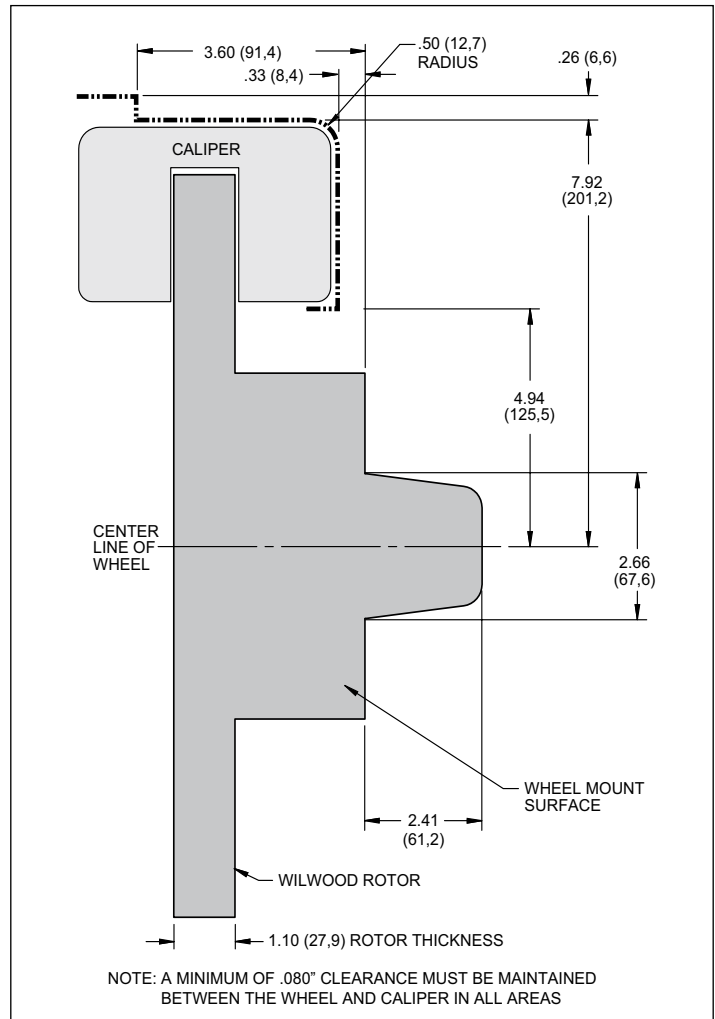

Figure 2. Wheel Clearance Diagram
- Review the wheel clearance diagram (figure 2, page 4) to verify that there is adequate clearance with the wheels you will be using with the installation.
Verify your wheel clearance using Figure 2.